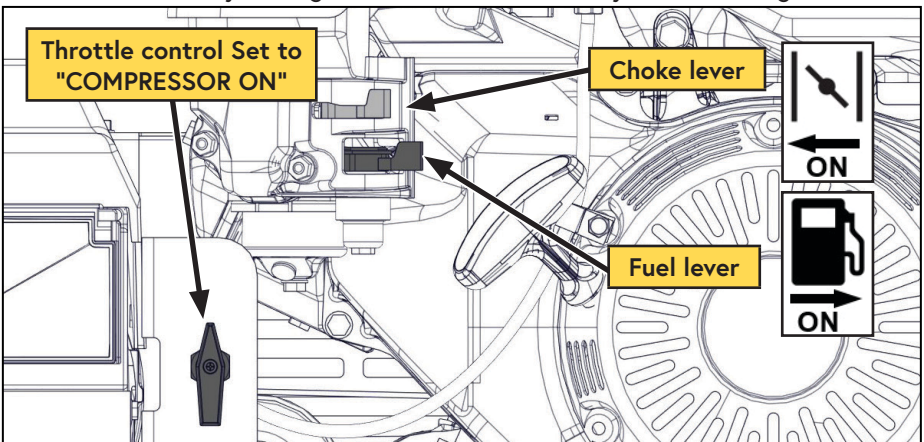

Figure 15 — Fuel and choke levers
- 1) Close the choke by moving the choke lever all the way to the left (Figure 15).
- 4) Turn on the fuel by moving the fuel shut off lever all the way to the right (Figure 15).